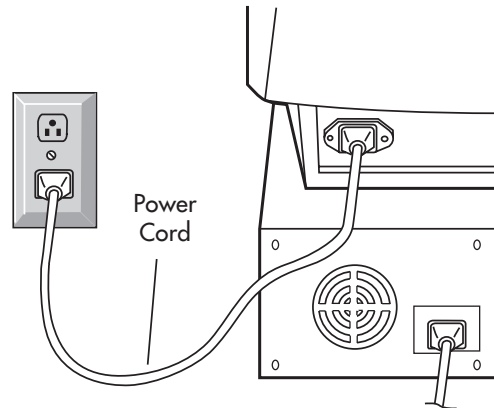

Figure C.1
5. Connect one end of the power cord to the MultiSync monitor and the other end to the power outlet (**Figure C.1**).